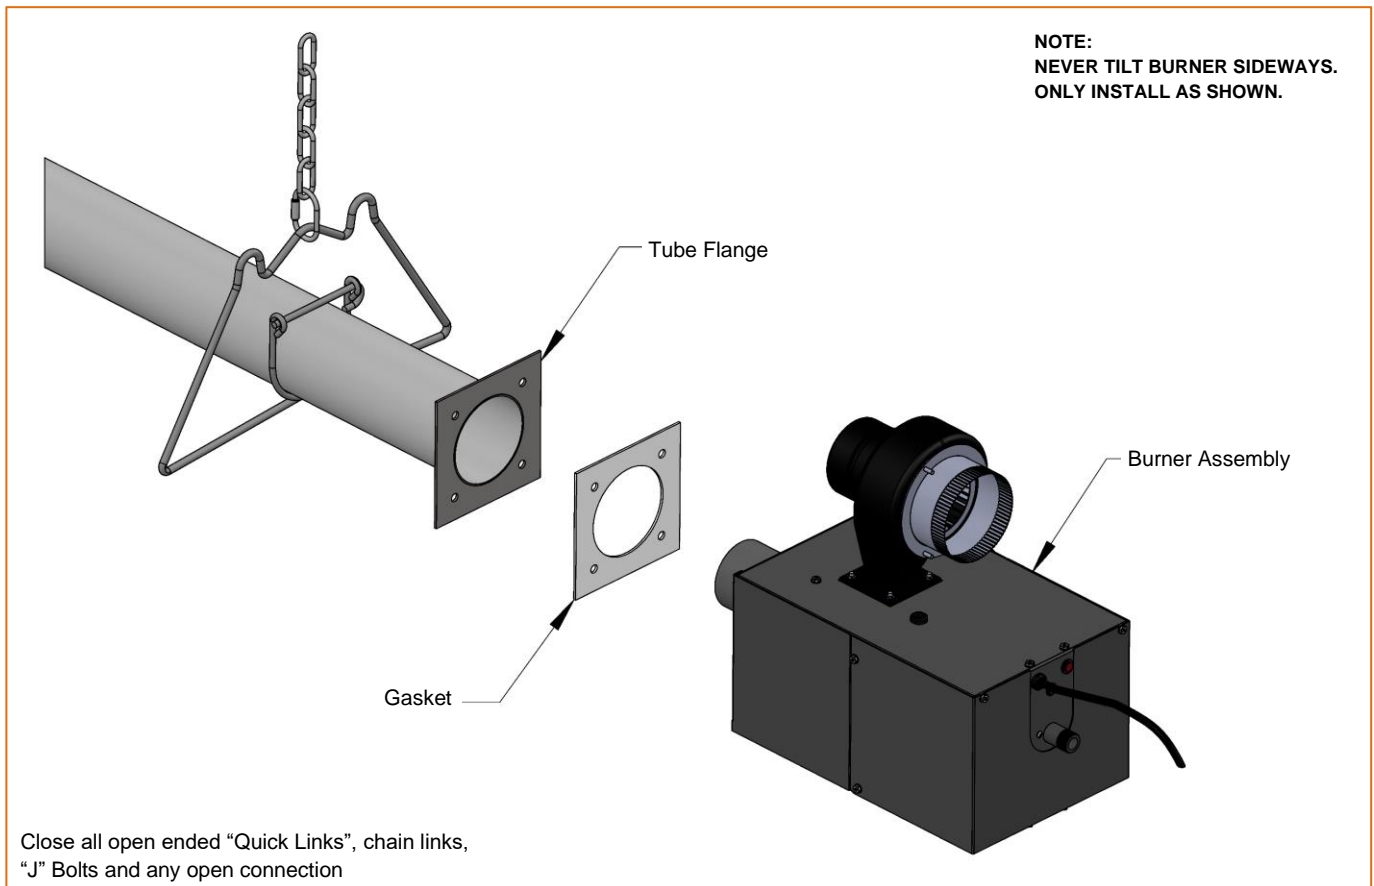

Figure 10: Burner Gasket Installation
- Locate the burner gasket provided, and bolt the burner in place on the tube flange with provided hardware. **Burner must never be installed in a tilted position.** The sense electrode of the burner cup should be in the 12 o'clock position (Figure 10).